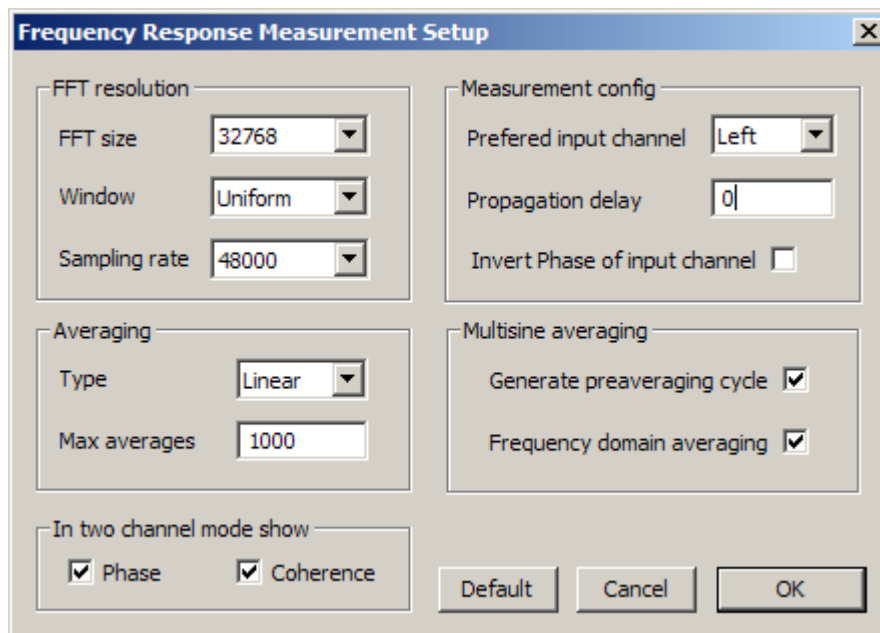

Figure 4.3 Dialog box for the frequency response measurement setup
4. Activate the '**Frequency Response Measurement Setup**' dialog box by clicking the menu **Setup->Measurement** or by clicking the toolbar icon . This dialog box is shown in Fig. 4.3.